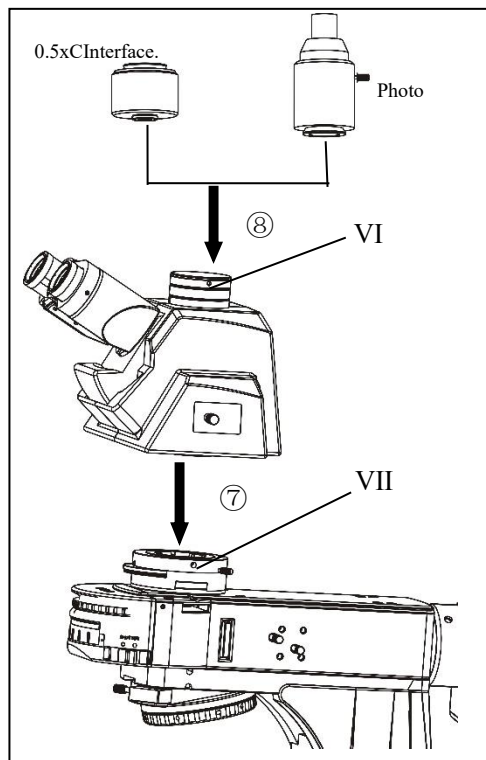

Figure 9
**4-2-7 Install observation head and photography accessories /0.5X C interface (Figure 9)**
Load the observation 9 head into the circular swallowtail of the microscope in accordance with the medium sequence number ⑦ in Figure 9, and tighten the screw at VI with an internal universal wrench to secure the observation head.
The photographic attachment /0.5X C X interface is loaded into the three-eye attachment interface of the observation head in accordance with the path shown in figure 9 mid-series number ⑧, and then the screw at VII is tightened with the internal universal plate hand to secure the image attachment.